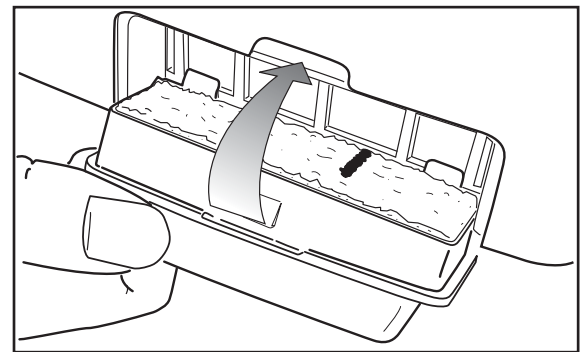

Fig. 4
2. Replace the old filter with a new one. Ensure that the vertical black line is facing towards the unit, as shown in Fig. 4. Clip the bottom of the filter holder in first, then rotate it upwards until the top clips into place.